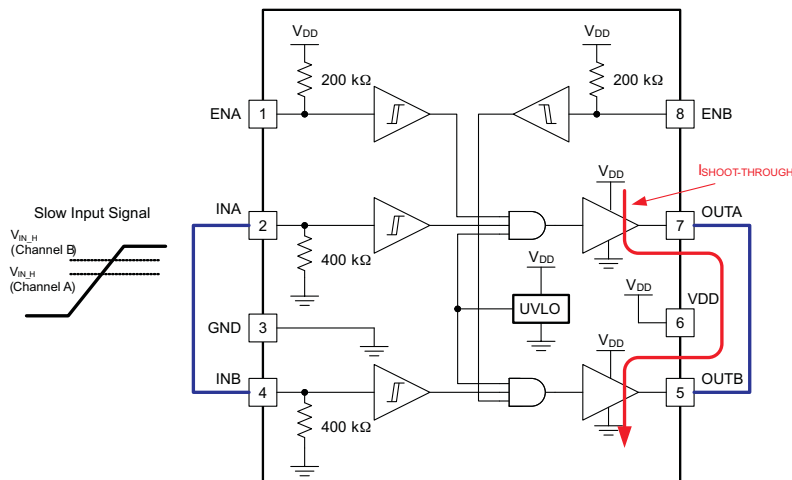

Figure 33. Slow Input Signal May Cause Shoot-Through Between Channels During Paralleling (recommended dV/dt is 20 V/μs or higher)
Caution must be exercised when directly connecting OUTA and OUTB pins together since there is the possibility that any delay between the two channels during turn-on or turn-off may result in shoot-through current conduction as shown in Figure 33. While the two channels are inherently very well matched (4-ns Max propagation delay), it should be noted that there may be differences in the input threshold voltage level between the two channels which can cause the delay between the two outputs especially when slow dV/dt input signals are employed. The following guidelines are recommended whenever the two driver channels are paralleled using direct connections between OUTA and OUTB along with INA and INB:
- Changed Slow Input Signal Figure 33. 21